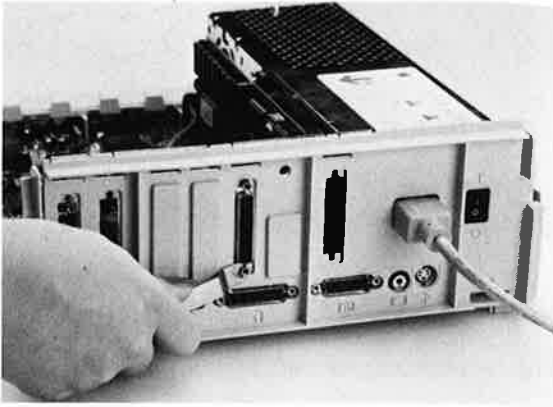

Figure 6 - Attach connector plate to backplane
3. **Insert and tighten the included hex screws** using the hex wrench provided. (Figure 6.)